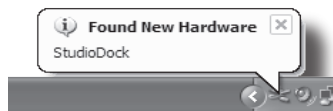

Figure 9
1. The first time you plug the StudioDock into a USB port, Windows XP will install the universal drivers for that port. A balloon tip will pop up, telling you it has found the USB Audio codec (figure 9).